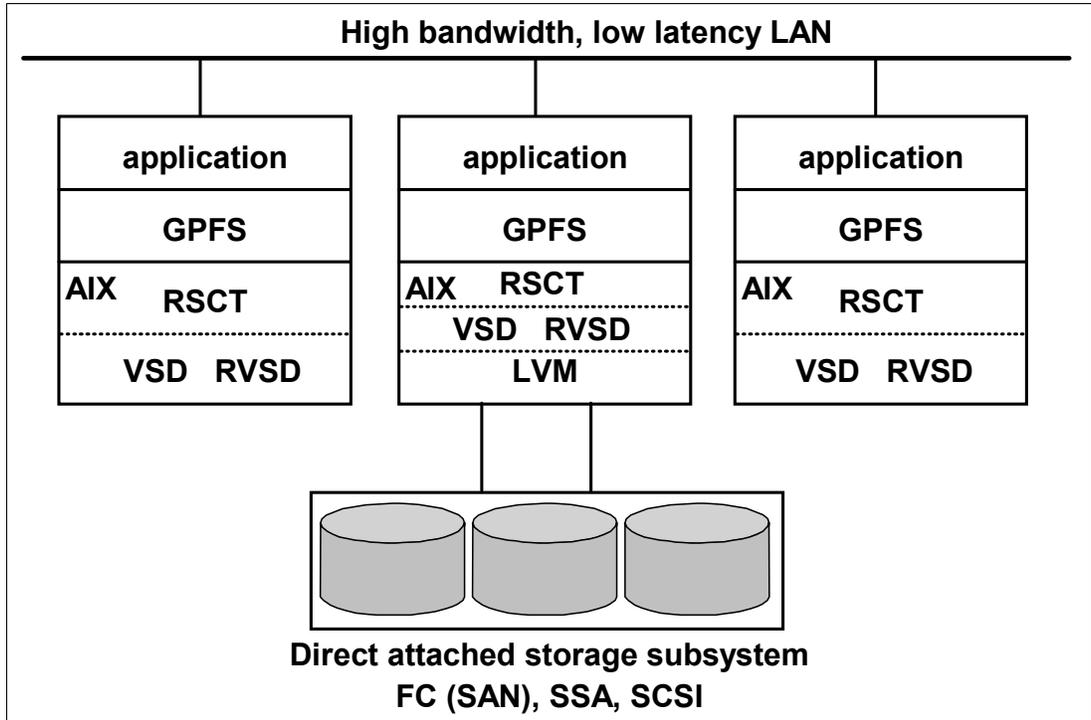

Figure 3-20 A GPFS cluster using the facilities of the VSD and the RVD components of RSCT
- ▶ Software simulation of a SAN by the use of the IBM Virtual Shared Disk component of RSCT. See Figure 3-20. Disks attached in this manner are formatted into Virtual Shared Disks for use by GPFS via the `mmcrvsd` command.